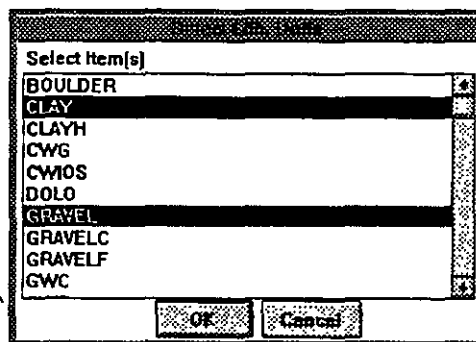

Figure 17-32
1. Select **Add Lithology to Legend**. A dialogue box titled "Select Lith. Units" will display a list of all lithologic symbols that you have made a part of your data base when you have created well logs using the **Well Log** application. This is the same list of wells which is copied from the ASCII file LITH.DLT as distributed with the program, unless you have used another file created by you. The dialogue box may look as shown in Figure 17-32.